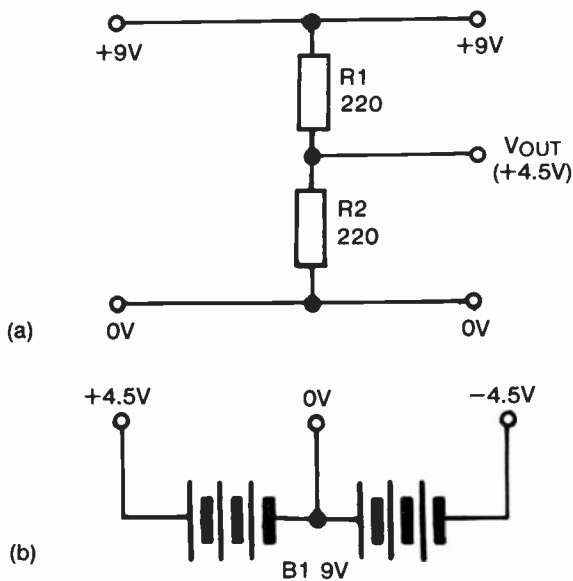

Fig. 17(a) Circuit diagram of Module 4.
**Circuit diagram:** see Figure 17.